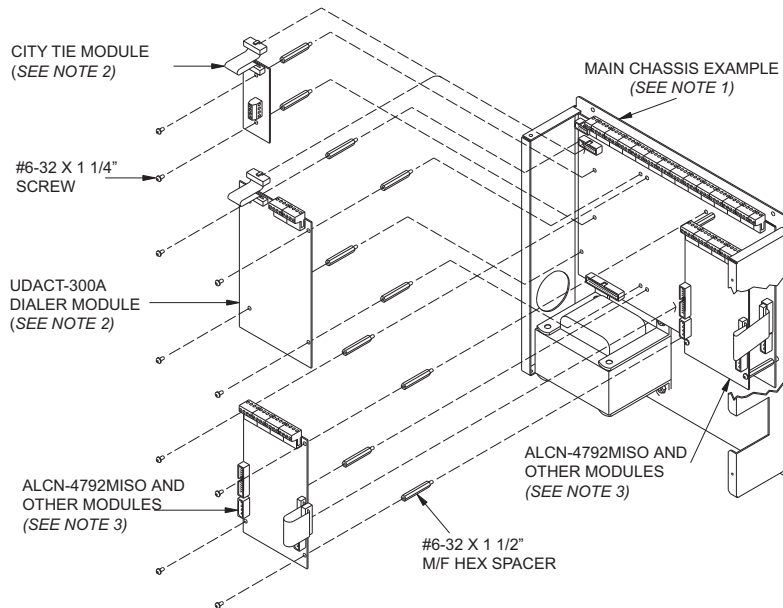

Figure 2 ALCN-4792MISO mounting locations
1. Secure the new board with the included standoffs and screws as shown in Figure 2.